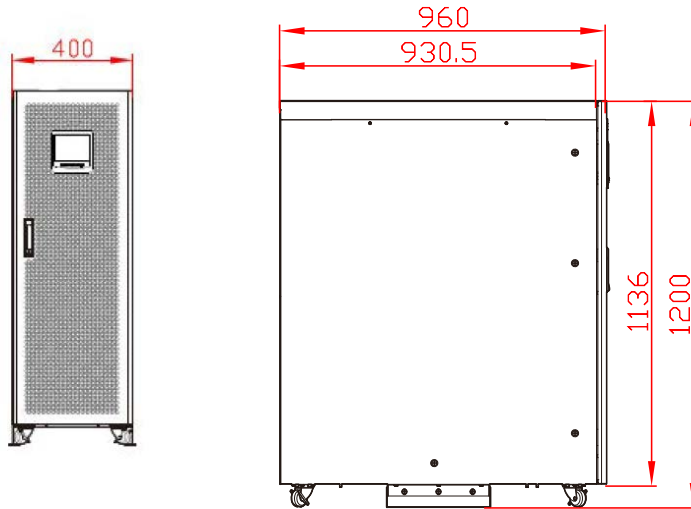

Figure3-9 Size
- Step 1 Determine and plan the installation position according to the UPS size (as shown in Figure3-9) and installation clearance requirement (see **3.2.3 Installation Space**).